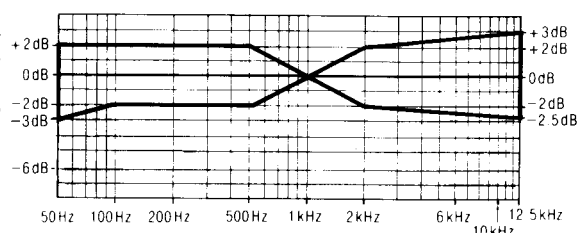
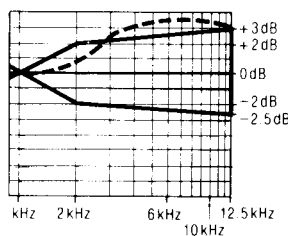
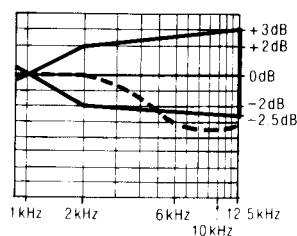

Fig. 14
Fig. 15
Fig. 16
6. Playback the signals recorded in step 5, and check if the frequency response curve is within the limits shown in the overall frequency response chart for normal tapes (fig. 14).
When the curve exceeds the overall specified frequency response chart (fig. 14) as shown in fig. 15.
- 2) Repeat steps 5 and 6 for confirmation (Proceed to steps 7, 8 and 9 if the curve is now within the charted specifications as shown fig. 14.)
- 3) If the curve still exceeds the specifications (fig. 14), increase bias current further and repeat steps 5 and 6.
When the curve falls below the overall specified frequency response chart (fig. 14) as shown in fig. 16.
- 3) If the curve still falls below the charted specifications (fig. 14), reduce bias current further and repeat steps 5 and 6.